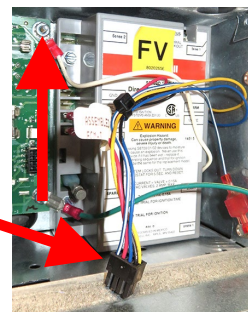

Figure 6
9. Disconnect the module harness and ground wire from the interface board ground lug (see Figure 6).